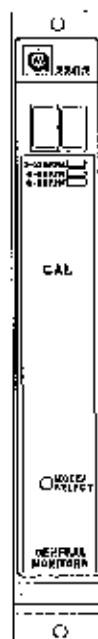

Figure 19
- Wait for the display to change from **CP** to **CC** when the calibration routine is complete (about 2 minutes, figure 19). If the display does not change from **CP** to **CC** after six minutes, the Model 2602 will indicate a fault condition (**F2**). Attempt another calibration.